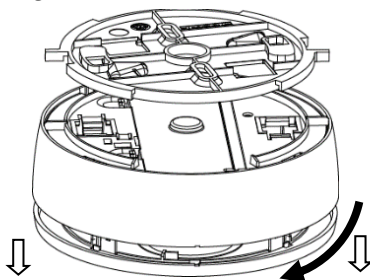

Figure 13
1. Remove the detector from the mounting bracket by rotating the detector counterclockwise (*see Figure 13*).